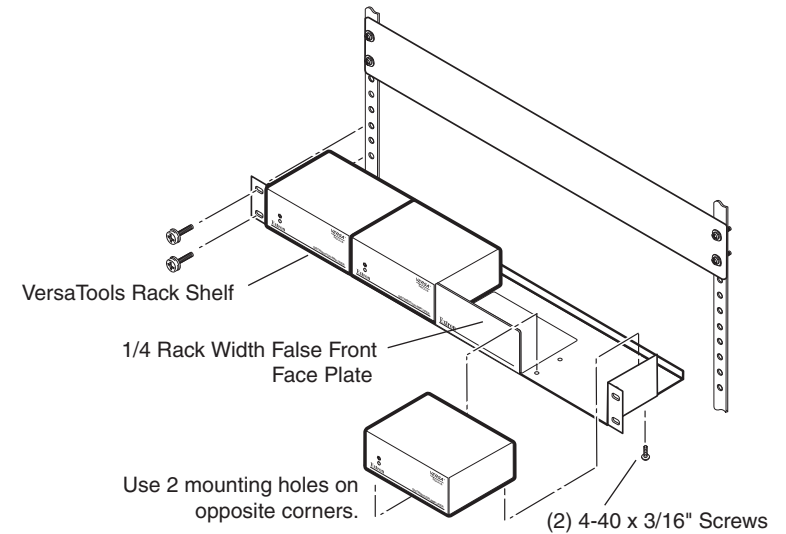

Figure 1 — Rack mounting the MDAs on a VersaTools rack shelf
- RSF 123 VersaTools® rack shelf kit (part #60-190-20) (figure 1)